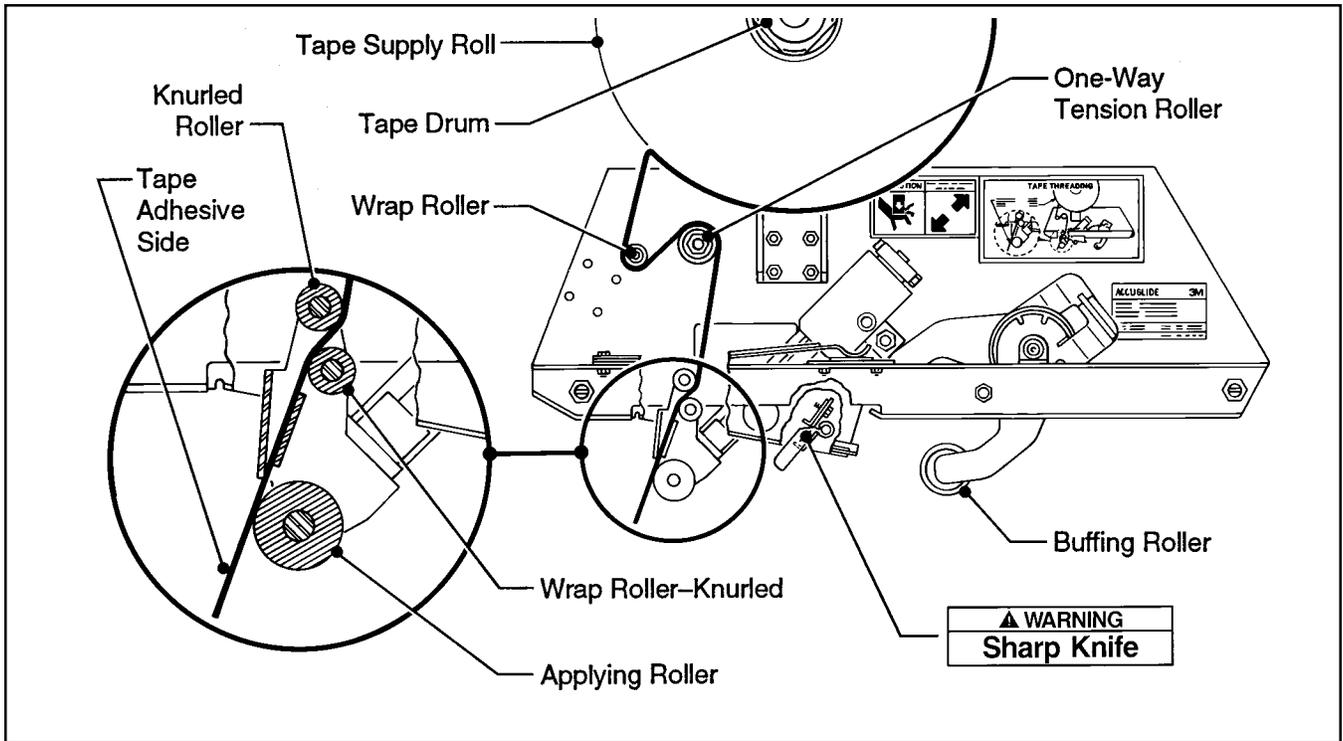

Figure 4-1 – Tape Threading Diagram – Upper Taping Head
The “**Warning - Sharp Knife**” label is used on each head to warn operators and service personnel of the extremely sharp blades used to cut the tape at the end of the box sealing operation. The label shown in Figure 1-1 is located on the blade guard assembly between the applying roller assembly and the buffing roller assembly. Before working with the tape heads or attempting to load the tape, refer to Figures 4-1 and 4-2 and identify the knife blade location. Keeps hands out of these areas except as necessary to service the taping heads.
BOTH THE UPPER AND LOWER TAPING HEADS UTILIZE EXTREMELY SHARP KNIFE BLADES. THE BLADES ARE LOCATED UNDER THE ORANGE BLADE GUARD WHICH HAS THE “WARNING – SHARP KNIFE” LABEL. BEFORE WORKING WITH THE TAPING HEADS OR ATTEMPTING TO LOAD THE TAPE, REFER TO FIGURES 4-1 AND 4-2 AND IDENTIFY THE BLADE LOCATION. KEEP HANDS OUT OF THESE AREAS EXCEPT AS NECESSARY TO SERVICE THE TAPING HEADS.
1. BOTH THE UPPER AND LOWER TAPING HEADS UTILIZE EXTREMELY SHARP KNIFE BLADES WHICH ARE LOCATED UNDER THE ORANGE BLADE GUARD WITH THE "WARNING – SHARP KNIFE" LABEL. REFER TO FIGURE 4-1 AND 4-2 AND IDENTIFY THE BLADE LOCATIONS. KEEP HANDS OUT OF THIS AREA EXCEPT AS NECESSARY TO SERVICE THE TAPING HEADS.
Refer to Figures 4-1 and 4-3
The **one-way tension roller** position (Figure 4-1 and 4-2) is adjustable to control the **leading tape leg** length and the “**L**” **brackets** adjustment **control** the **trailing tape leg** length.